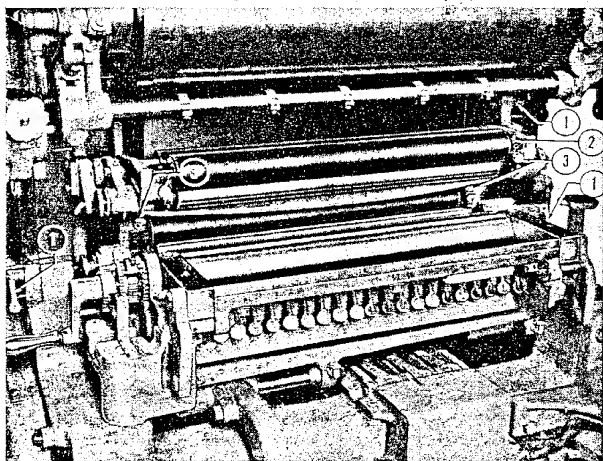

Figure 31—Form and Distributor Rollers
(3) HOW TO OPEN OR REMOVE FORM AND DISTRIBUTOR ROLLERS.—The composition form and distributing rollers are mounted in roller boxes which attach to the form and distributing roller frames. (See figure 31.) The roller frames are so designed that the composition rollers may be lowered out of operating position. Roller lock levers, (1) figure 31, one on each end of roller frames, lock the frames in operating position.
The rollers are locked in their boxes by means of roller box keys, (2) figure 31, in the right side roller box. A roller may be removed from its box by sliding the key from the box, permitting the removal of the roller. In addition, the roller frames can be easily removed from the press by swinging the roller lock levers (1) figure 31, to their up position, permitting the roller frames to be lifted from the studs on which they mount.
(4) HOW TO ADJUST FORM AND DISTRIBUTOR ROLLERS.—Roller adjusting screws, (3) figure 31, provide for adjusting the form and distributor composition rollers for correct contact with ink table and their vibrator rollers. When the rollers are adjusted for correct contact with ink table, they will also be in correct contact with their vibrator rollers. To check for correct composition roller setting, proceed as follows:
(a) With form and distributor rollers installed on their frames, lock frames in operating position, being sure that lock levers, (1) figure 31, are in down position. (Figure 31 shows form rollers in open position.) If new composition rollers are installed, reset to proper contact by means of adjusting screws.
sition, and then examine roller impression on ink table. The impression should be approximately $3/16$ " wide the full length of roller. If impression is not correct, turn roller adjusting screw, (3) figure 31, as required.